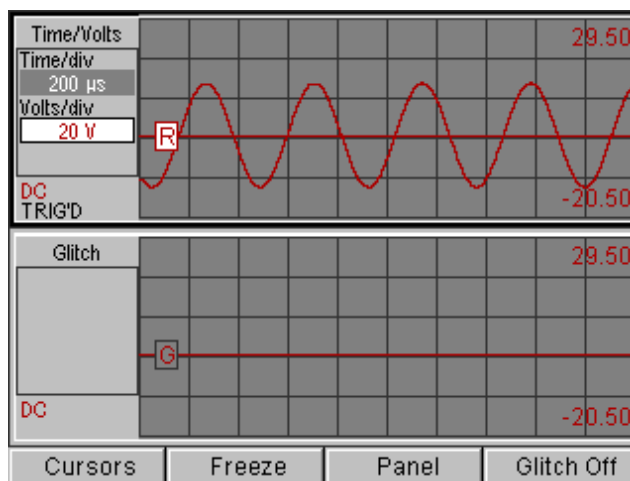

Figure 7.46: Lab Scope Screen, Glitch On - Before Glitch Occurs
- 2 Press the **Glitch On** function key. This displays the Glitch panel in the bottom half of the screen, as shown in Figure 7.46.